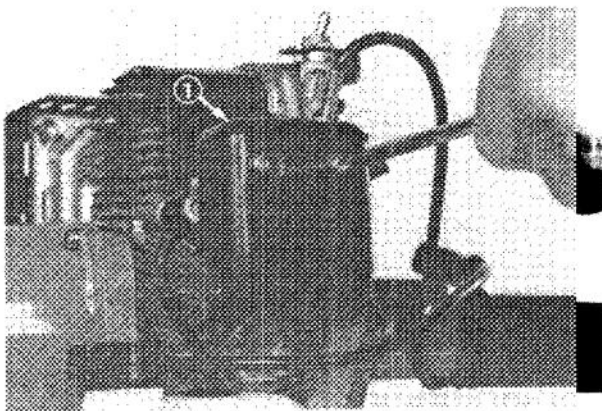

Figure 31
1. Remove the screws securing the air cleaner cover and remove cover (Fig. 31).